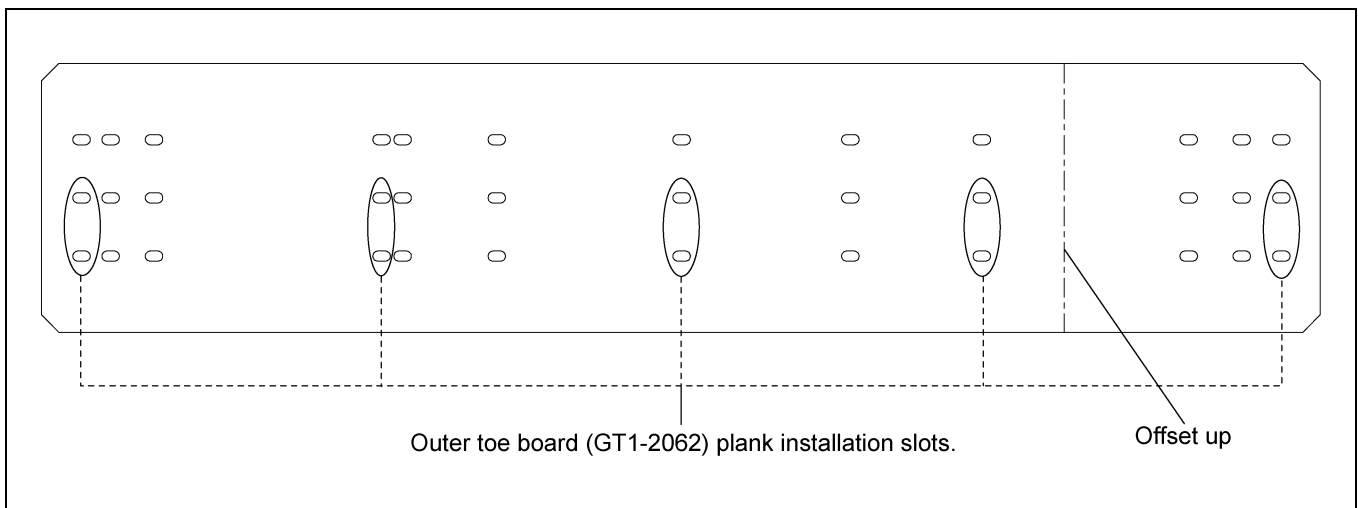

Figure 5H 30' Outer Toe Board (GT1-2062)
3. Outer toe board (GT1-2062) is arranged with various slots to install plank. Install planks to corresponding slots as shown in Figure 5H.